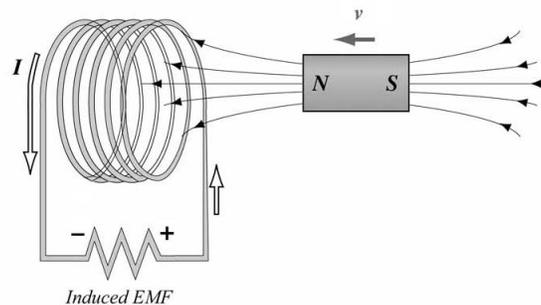
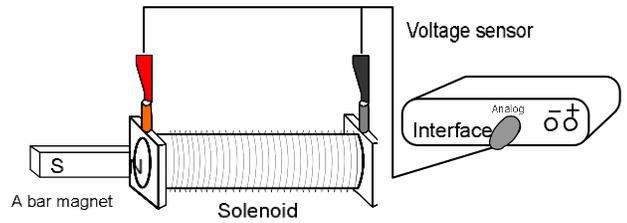

Figure 2
Figure 3
It is important to note that a stationary (not moving in space or time) magnetic field will not create a current by inducing a voltage; only a magnetic field that is changing with respect to time or has motion relative to a particular wire configuration is able to generate a current within that wire. This is known as Faraday's law, and for a wire coil with  $N$  loops; this is illustrated in Figure 2 and can be expressed mathematically as:
- 1) Setup the solenoid with a voltage sensor and magnet as shown in Figure 3, open a new experiment in DataStudio, select a voltage sensor for the appropriate channel, and set the sample rate to 200 Hz, as shown in Figure 2. Open a graph that displays voltage vs. time and maximize the graph's view window.
- 3) Clear all data from the graph, hold the magnet by covering the "S" with your thumb (like a wand), Click Start again, *carefully* insert the "N" end of the magnet into the side of the solenoid with the positive (red) voltage lead, as shown in Figure 3, then remove the magnet from the solenoid *very* quickly. Be sure to insert the magnet as far as you can, and remove it as quickly as you can. Then flip the magnet so that you are holding the "N" side, repeat this process, and click Stop. Enlarge and enhance the view of your data by adjusting the axis locations and scales so that the relevant data takes up the whole graph window, and then print this graph.
- 4) Flip the polarity of the voltage sensor moving the red and black leads or simply by turning the solenoid so that the black voltage lead is on the left in Figure 3 above. Precisely repeat step 3 with this new voltage polarity and print the second graph too.